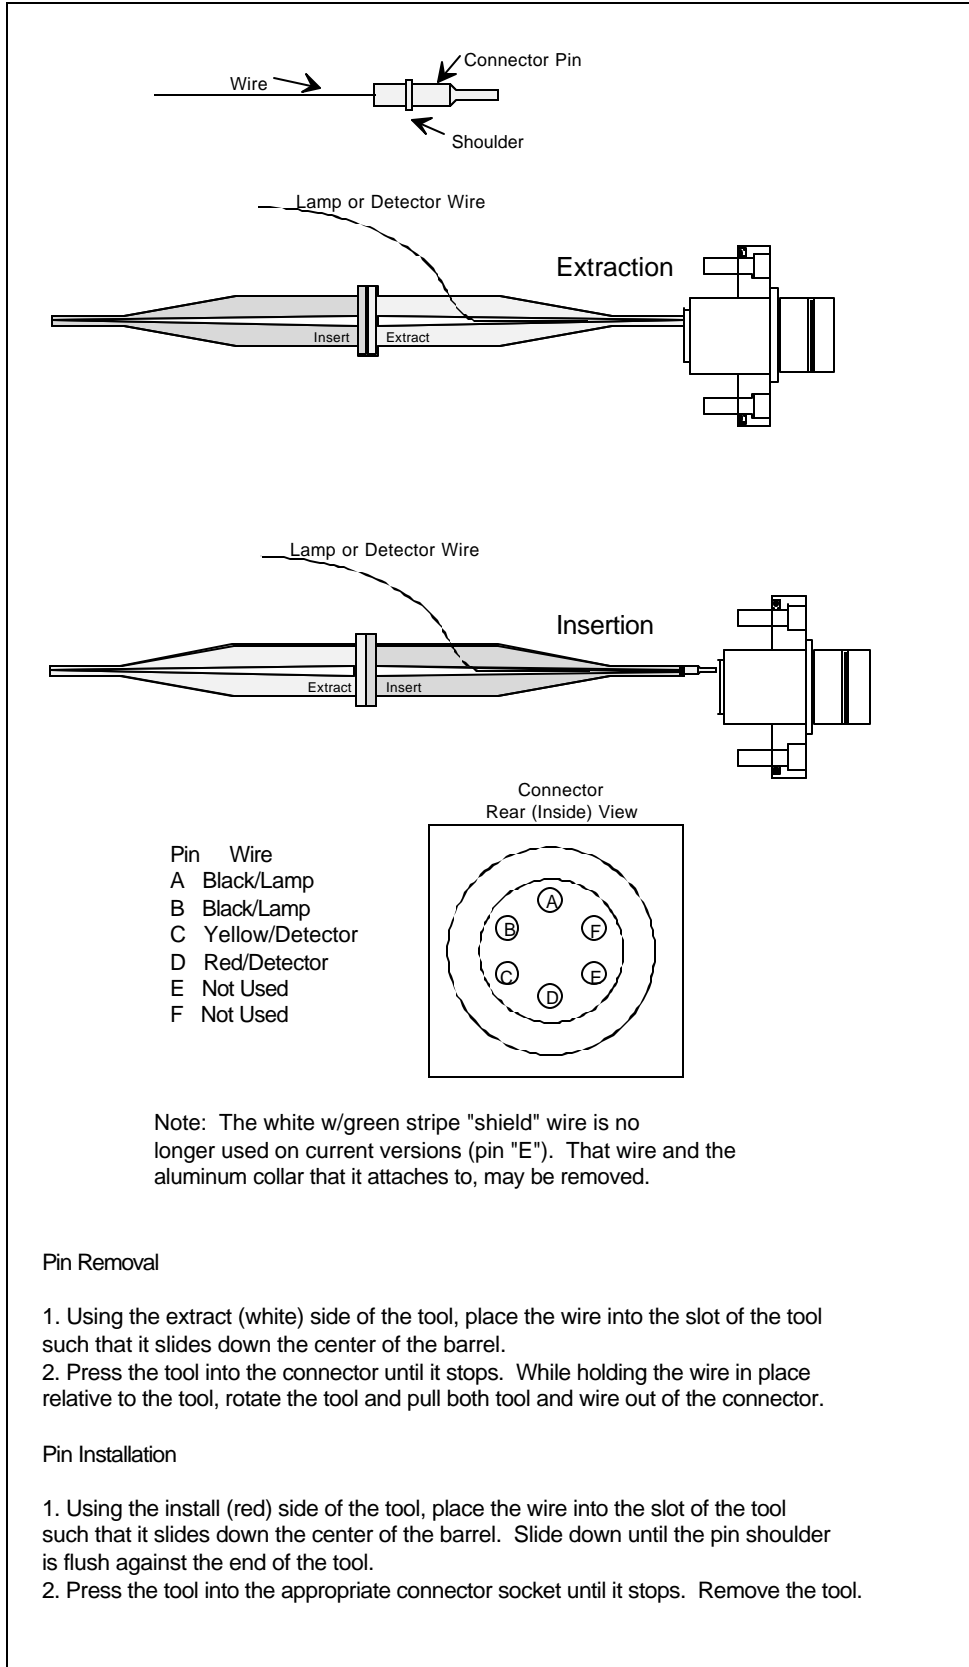

Figure 18 – Connector Pin Installation/Removal
1. Remove the four (4) socket head screws from the base plate of the probe. Pull the base plate off the probe housing, carefully unfolding the wires inside.
2. On older versions, disconnect the wire interconnect pins joining the internal cables to separate the base plate from the probe body. On newer versions, only remove wires as necessary to replace lamp or detector. Use the pin extractor supplied with the lamp or detector replacement kit to remove pin(s). *Refer to connector pin drawing (fig. 18) for installation/removal of pins.*
8. Remove the two (2) 4-40 socket head screws from the lamp holder.